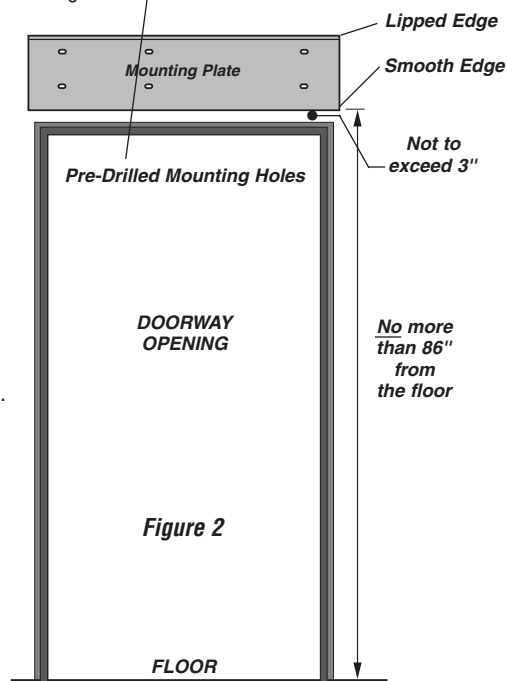

Figure 2
2. Keeping the mounting plate level, center it over the doorway opening. Be sure the lipped edge of the plate is at the top. **Figure 2. Note:** The bottom edge of the mounting plate should be no more than 108" from the floor.